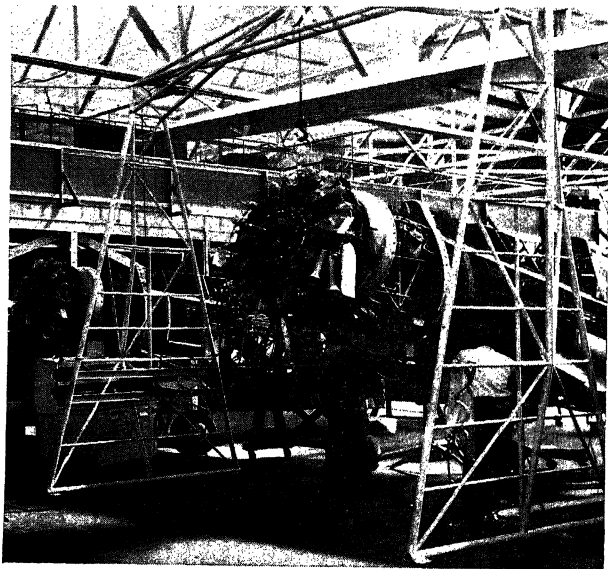

FIG. 9.—Crane for handling engines at San Diego. (*Official U.S. Navy Photograph.*)
**Cranes and Tables.**—The size and weight of modern engines make it necessary to provide suitable means for handling them in and out of planes. In Fig. 9 is one of the lightweight, welded tubing cranes used at San Diego for this purpose. They are provided with substantial swiveling casters so as to be easily placed in the proper position. They pick the engine up at